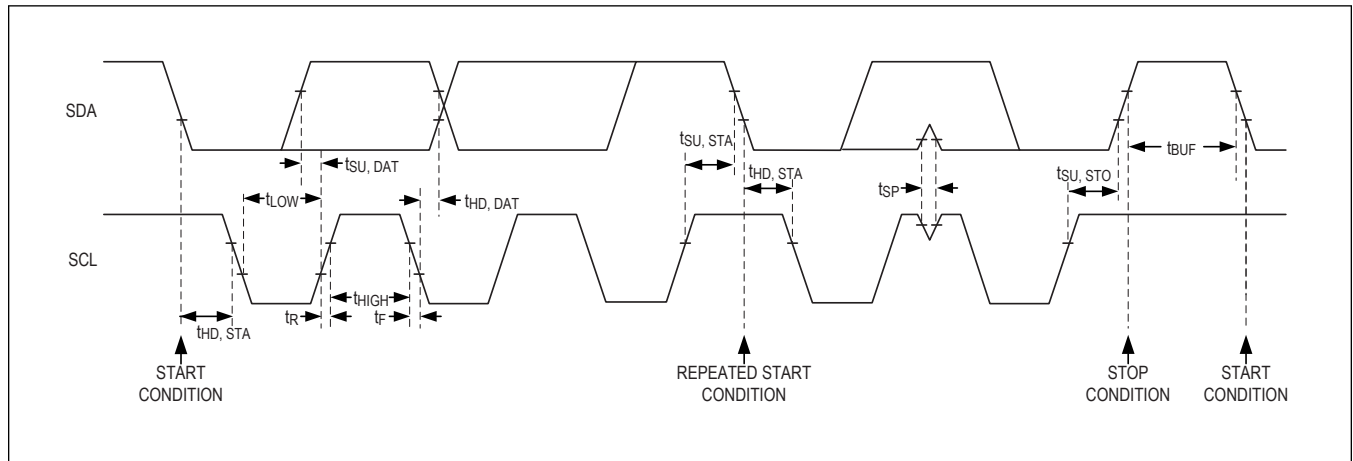

Figure 9. Detailed I2C Timing Diagram
Figure 9 shows the 2-wire interface timing diagram. The controller generates SCL and initiates data transfer on the bus. The controller device writes data to the MAXM86161 by transmitting the proper target address followed by the register address and then the data word. Each transmit sequence is framed by a START (S) or REPEATED START (Sr) condition and a STOP (P) condition. Each word transmitted to the MAXM86161 is 8 bits long and is followed by an acknowledge clock pulse. A controller reading data from the MAXM86161 transmits the proper target address followed by a series of nine SCL pulses. The MAXM86161 transmits data on SDA in sync with the controller-generated SCL pulses. The controller acknowledges receipt of each byte of data. Each read sequence is framed by a START (S) or REPEATED START (Sr) condition, a not acknowledge, and a STOP (P) condition. SDA operates as both an input and an open-drain output. A pullup resistor is required on SDA. SCL operates only as an input. A pullup resistor is required on SCL if there are multiple controllers on the bus, or if the single controller has an open-drain SCL output. Series resistors in line with SDA and SCL are optional. Series resistors protect the digital inputs of the MAXM86161 from high voltage spikes on the bus lines, and minimize crosstalk and undershoot of the bus signals.
The detailed timing diagram of various electrical characteristics is shown in Figure 9.